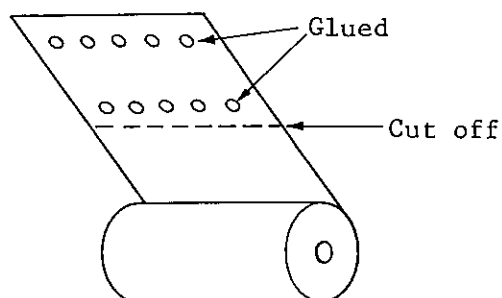

Fig. 14.1
- 1) Prepare the proprietary thermosensitive paper WP:PP-123. Cut off the paper tip cross-wise at a position beyond the glued part, towards the roll core (Fig. 14.1).